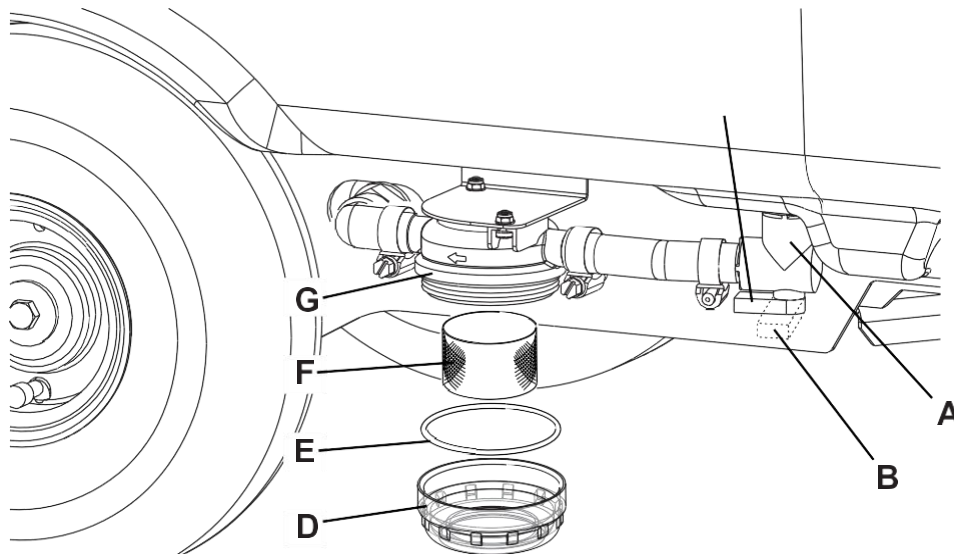

Figure 14
2. Turn off the machine by pressing and holding the switch (66) for nearly a second.
3. Close the solution tap (A, Fig. 14) under the machine, behind the left rear wheel.